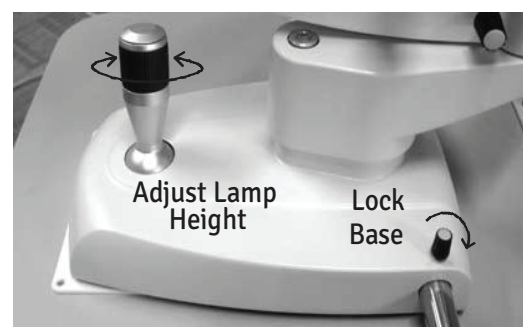

Figure-14 Adjust Height
7. Microscope elevation is adjusted by rotating the joystick and observing the slit image through the Microscope Assembly until slit is centered on the patient's cornea. Refer to figure-14.
10. The horizontal motion of the base can be locked by tightening the Base Locking Screw. Refer to figure-14.